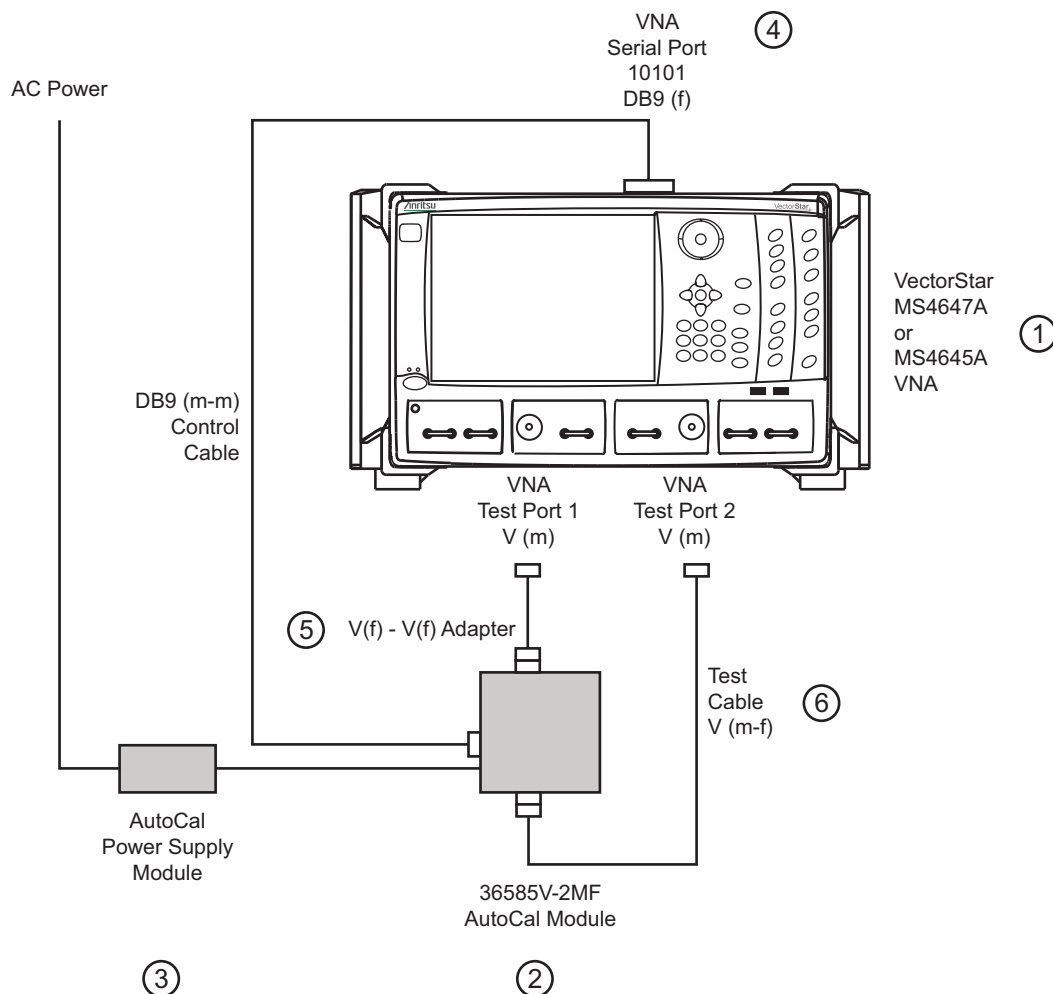
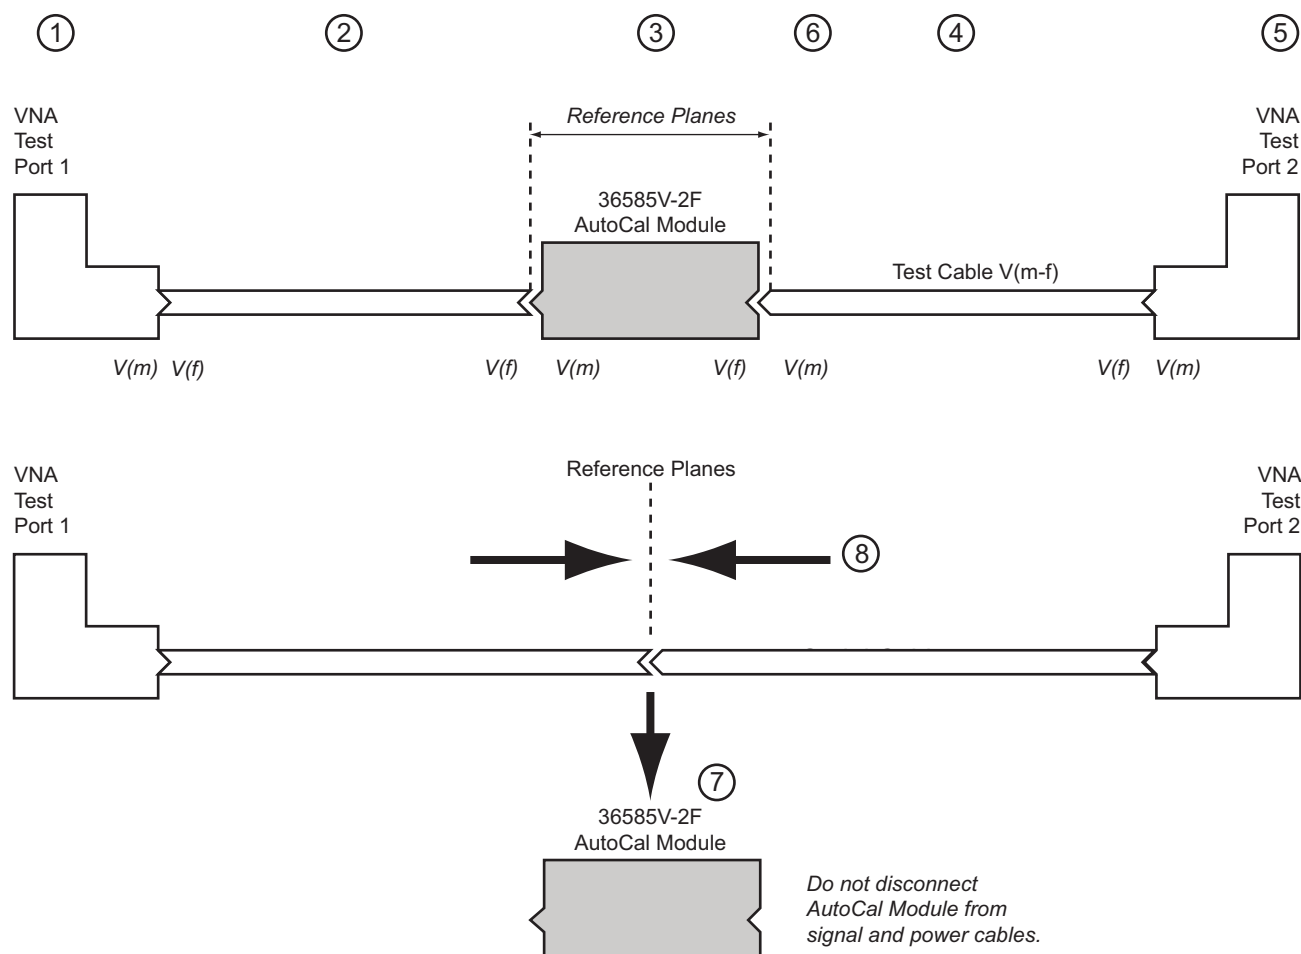

Figure 2-12. Precision AutoCal 36585V-2MF Cable Connections for True Through
Figure 2-13. AutoCal True-Through Connections
- Schematically, the connections shown in Figure 2-12 are also shown in Figure 2-13.